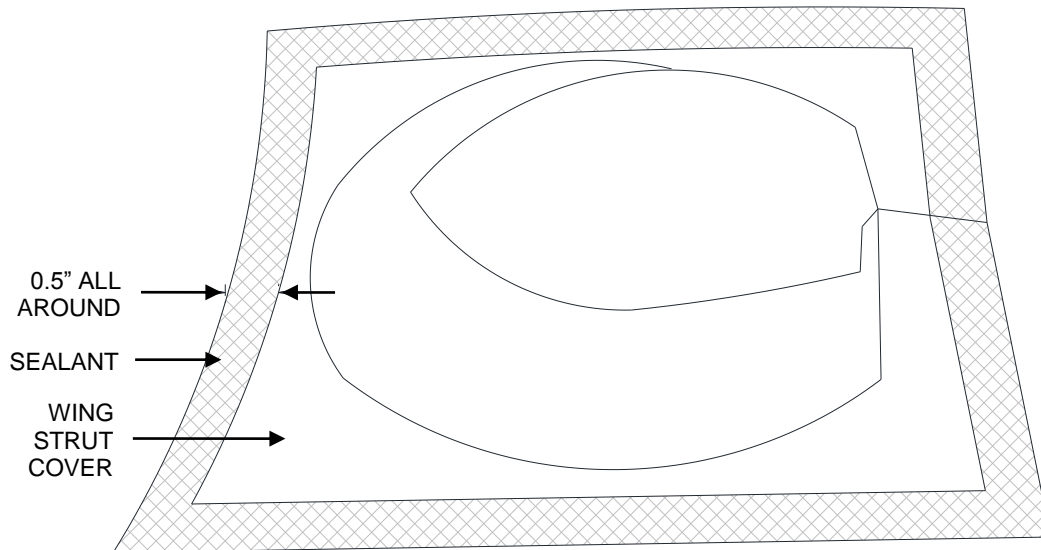

Figure 15: Sealant Application for Wing Strut Cover
8. Apply a continuous bead of Sealant (Item 13) to the surface of the Wing Strut Cover that mates with the fuselage in the area shown in Figure 15.